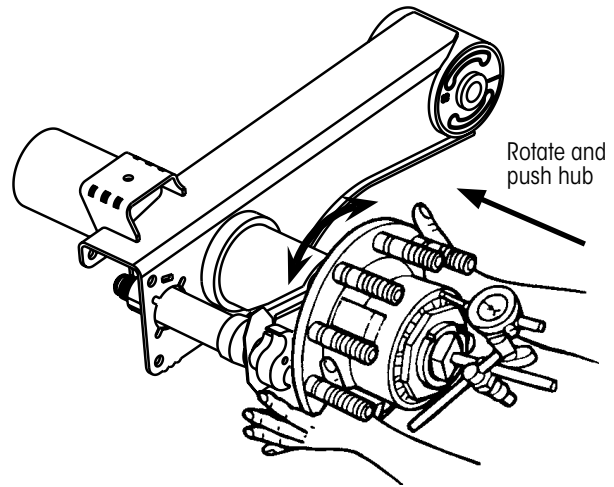

Figure 7: Checking inward end-play
NOTE: A reasonable assessment can be performed without removing tires and rims. However, this procedure is best performed with hub only as shown in Figure 7 on page 8.
8. Grasp hub flange, as shown in Figure 7, and push the hub inward while rotating hub slightly in both directions (between two hub cap fastener holes) until the dial indicator reading remains constant. Record reading.